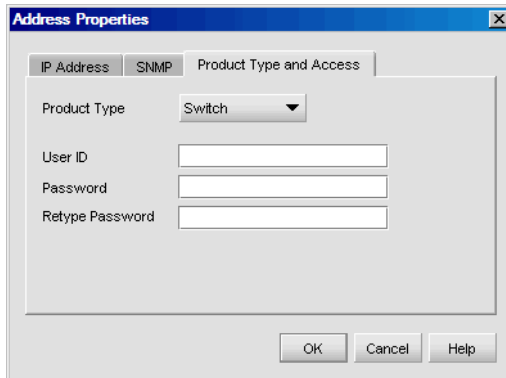

Figure 37 Address Properties dialog box (Product Type and Access tab)
3. Click the Product Type and Access tab. The Product Type and Access tab is displayed (Figure 37).